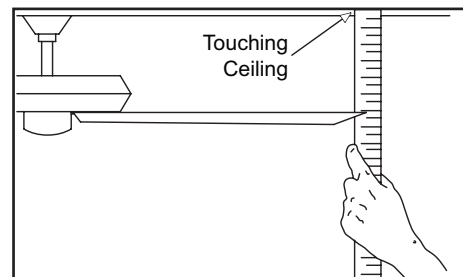

Figure 10
2. Most fan wobble problems are caused when blade levels are unequal. Check this level by selecting a point on the ceiling above the tip of one of the blades. Measure from a point on the center of each blade to the point on the ceiling. Measure this distance as shown in Figure 10. Rotate the fan until the next blade is positioned for measurement. Repeat for each blade. Measurements deviation should be within $\frac{1}{8}$ ". Run the fan for 10 minutes.